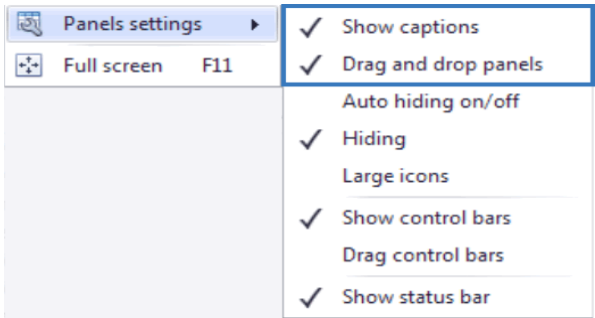

Fig. 18. Panels settings.
- To be able to move panels, you should enable window drag-and-drop and captions displaying. Go to *Menu bar > View > Panels settings* and make sure these options are active (Fig. 18).
- Also the desktop stores settings of windows and panels. The user can set up parameters of windows in the “Panel settings” menu located in the “View” menu of Menu bar (**Fig. 18**).